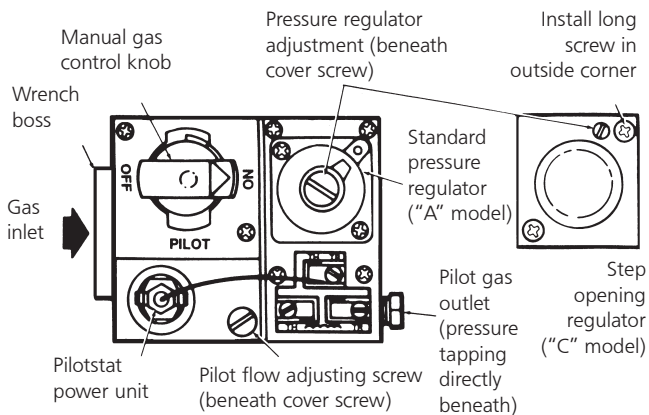

Figure 8. Top view of standard capacity gas control.
- Remove pilot adjustment cover screw. Refer to Figure 8.
Pilot gas flow adjustment screw may be closed	Open and adjust (see Figure 8)